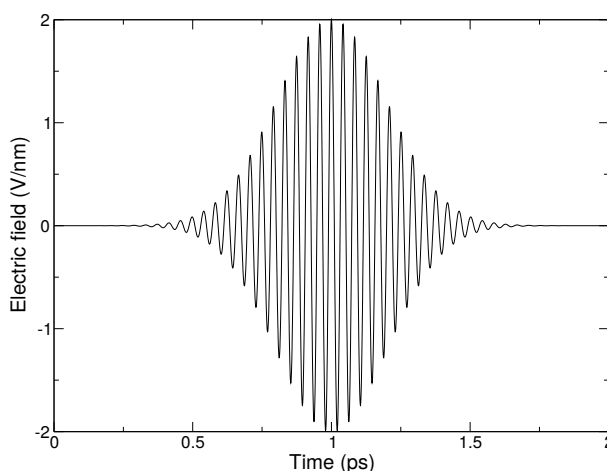

Fig. 5.48: A simulated laser pulse in GROMACS.
This simulated laser-pulse was applied to simulations of melting ice 146 (page 545). A pulsed electric field may look like Fig. 5.48. In the supporting information of that paper the impact of an applied electric field on a system under periodic boundary conditions is analyzed. It is described that the effective electric field under PBC is larger than the applied field, by a factor depending on the size of the box and the dielectric properties of molecules in the box. For a system with static dielectric properties this factor can be corrected for. But for a system where the dielectric varies over time, for example a membrane protein with a pore that opens and closes during the simulation, this way of applying an electric field is not useful. In such cases one can use the computational electrophysiology protocol described in the next section (sec. *Computational Electrophysiology* (page 487)).
yields an pulsed-oscillating electric field with  $E_0 = 2$  V/nm,  $\omega = 150$ /ps and  $t_0 = 5$  ps and  $\sigma = 1$  ps. Read more in ref. 146 (page 545). Note that the input file format is changed from the undocumented older version. A figure like Fig. 5.48 may be produced by passing the `-field` option to *gmx mdrun* (page 186).